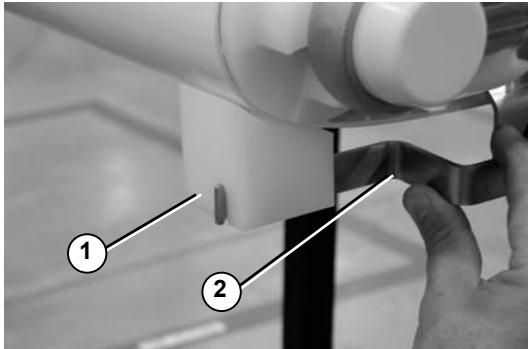

Figure 17
2. Insert limiter (Figure 17, item 1) between support plates (Figure 17, item 2).